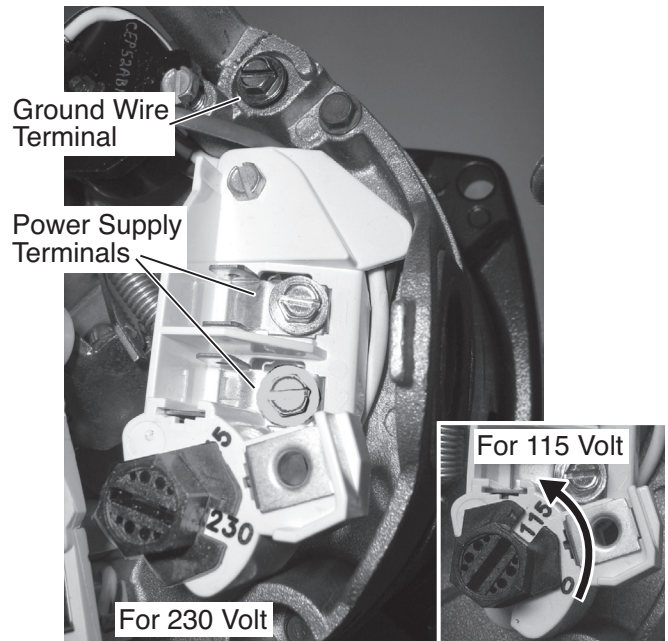

Figure 4 - Voltage set to 230 volts, Dial Type; turn dial to select 115 volts. Insert tool in slot to turn dial.
Your motor terminal board (located under the motor end cover) should look like Figure 4.
7. Connect current carrying conductors to terminals L1 and L2 under motor canopy. When replacing motor, check wiring diagram on motor nameplate against Figure 4. If the motor wiring diagram does not match Figure 4, follow the diagram on the motor.